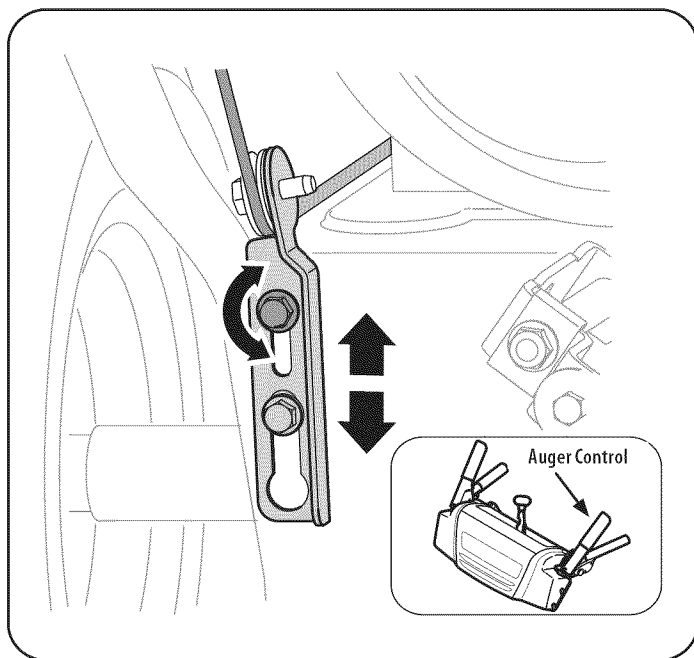

Figure 10
1. The auger control is located on the left handle. See Figure 10 inset. When the auger control is released and in the disengaged "UP" position, the cable should have very little slack. It should NOT be tight.
7. To readjust the control cable, loosen the upper hex bolt on the auger cable bracket. See Figure 10.